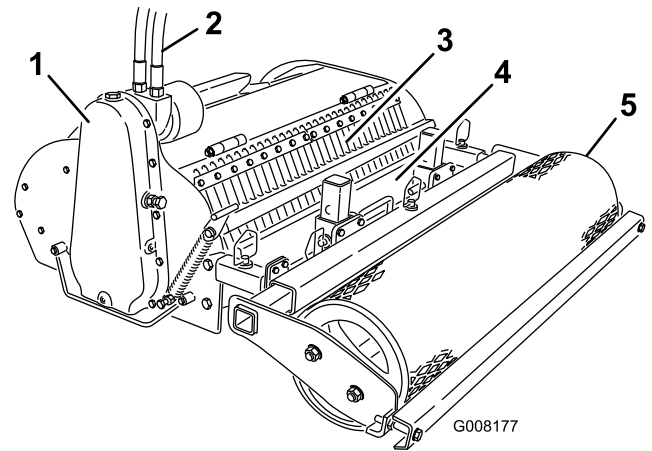

**Figure 3**
4. Remove the snap-ring clevis pins from the drift pins (Figure 3).
5. Remove the drift pins from the arms of the cultivator (Figure 3).
6. Slide the arms on the roller into the arms on the cultivator and connect them with the drift pins (Figure 3).